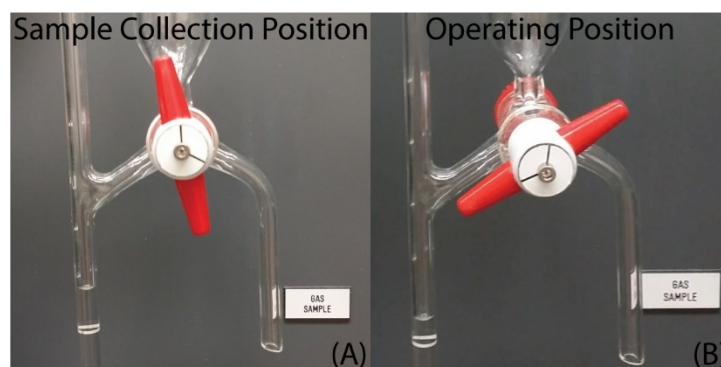

Figure 1 Gas Sample Valve positions. Left: Sample collection position. Right: Operating Position.
- Turn the Gas Sample Valve to the *Sample Collection Position* as indicated in Figure 1. Condensed distillate will begin to drip into the vial.
- Return the valve to *Operating Position* as indicated in Figure 1.